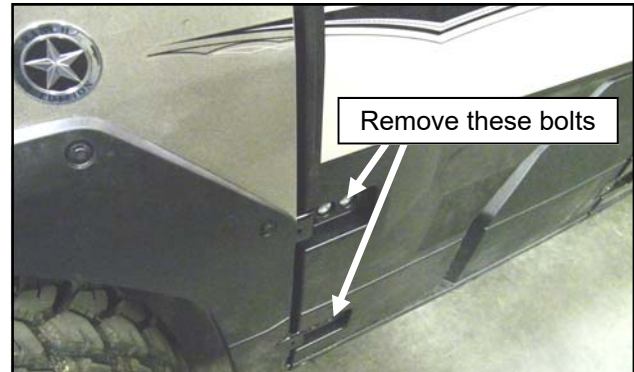

Fig. 1.1 Factory half doors (4)
1.1 Per figure 1.1, remove front and rear half doors.